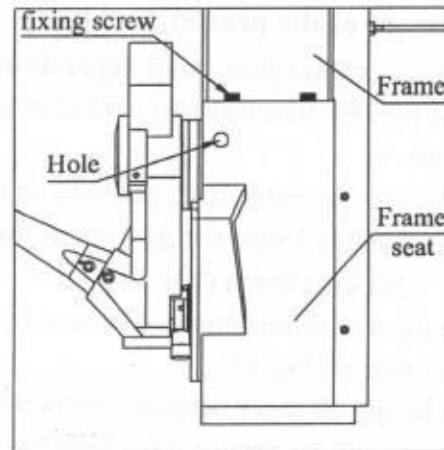
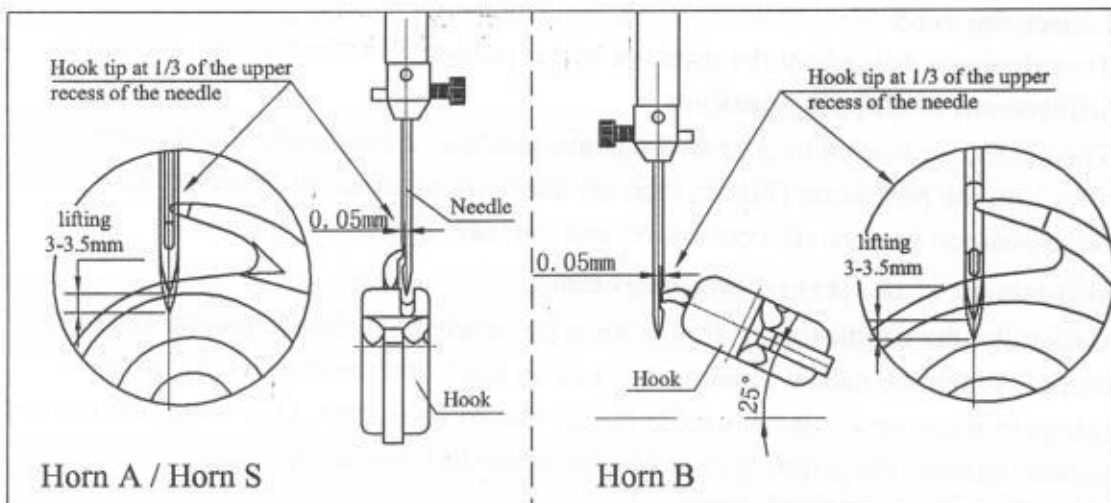

Fig 12
Fig 13
- Loosen the two setting screws(M10) of the conical gear or of the driving sleeve(shaft) in the right hole of the frame seat.(Fig 12)
- Turn the pulley in the correct direction. When the needle bar raise 3-3.5mm from its lowest position, the tip of the shuttle is just at 1/3 of the upper recess of the needle.(Fig 13)
- The distance between the shuttle tip and the needle slot surface is 0.05mm(Fig 13). To adjust it, loosen the four M12 fixing screws(Fig 12) on the frame seat and move the frame.